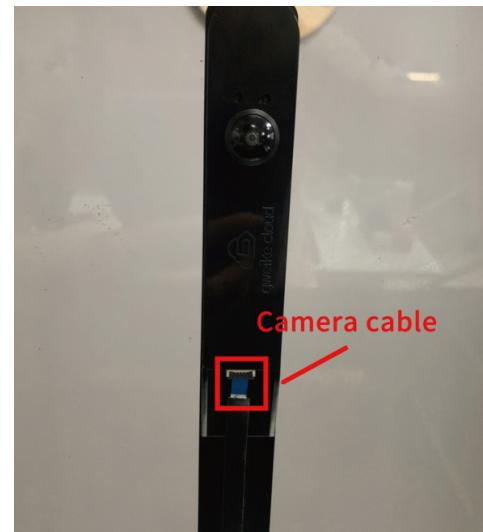

Figure23
- ①The camera socket is loose, re-plug the camera (Figure 23)
- ②The camera cable is damaged, replace the camera cable.